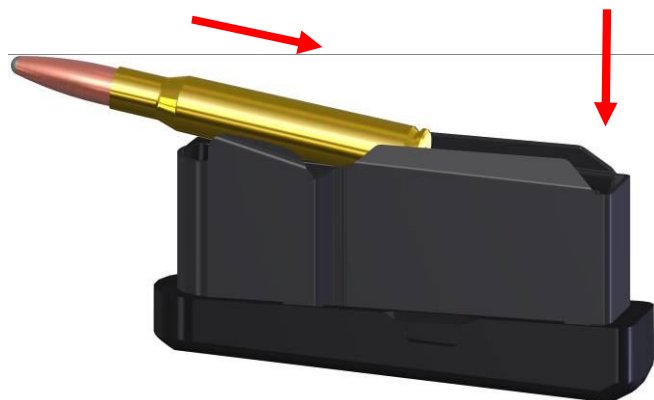

Figure 15
- It is recommended to softly press the magazine follower downward at the back and to push the cartridges from the front under the magazine lips. (Figure 15)